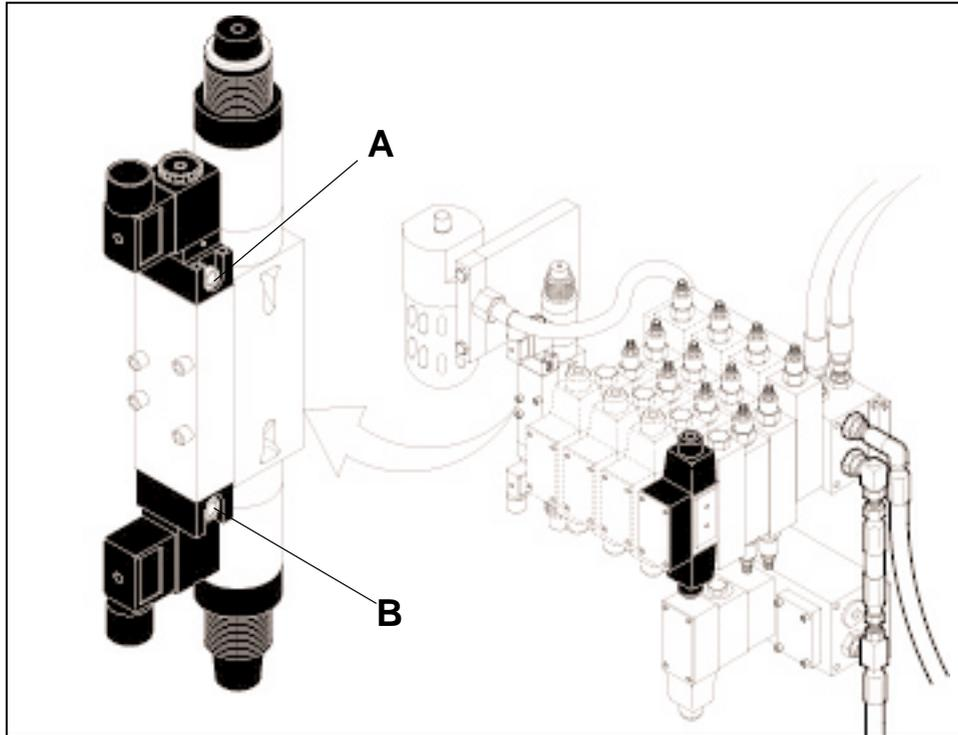
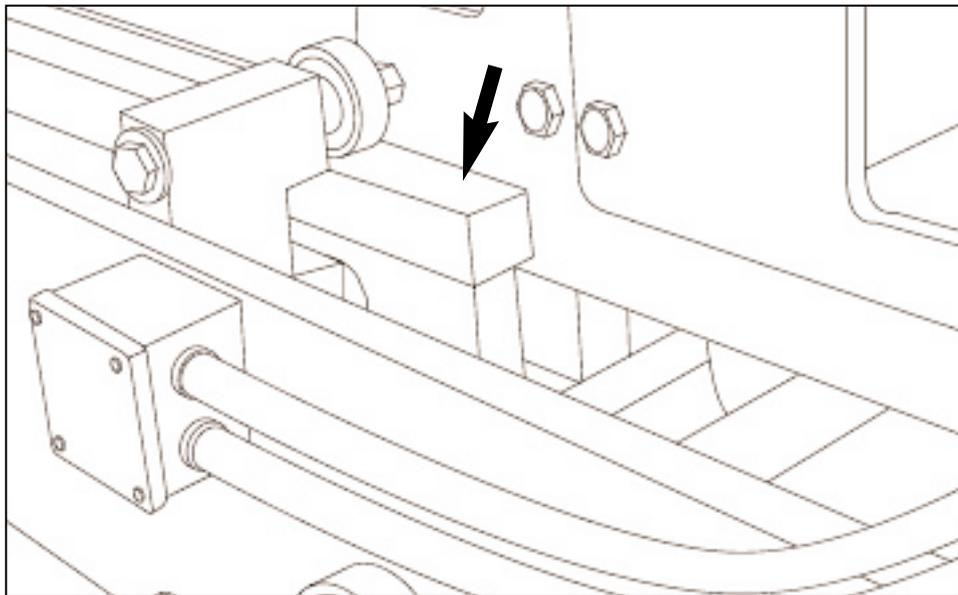
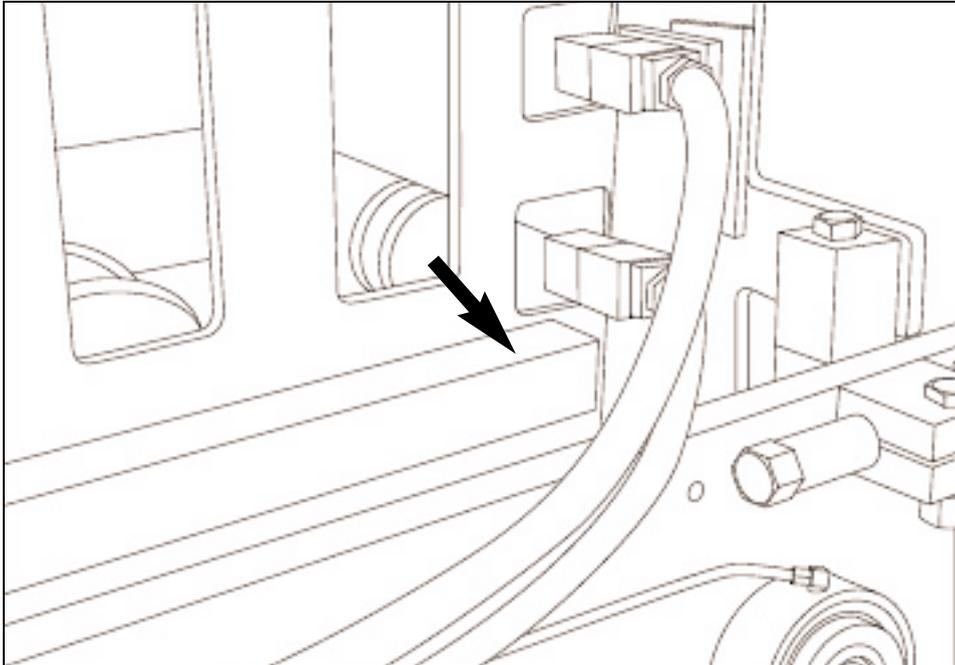
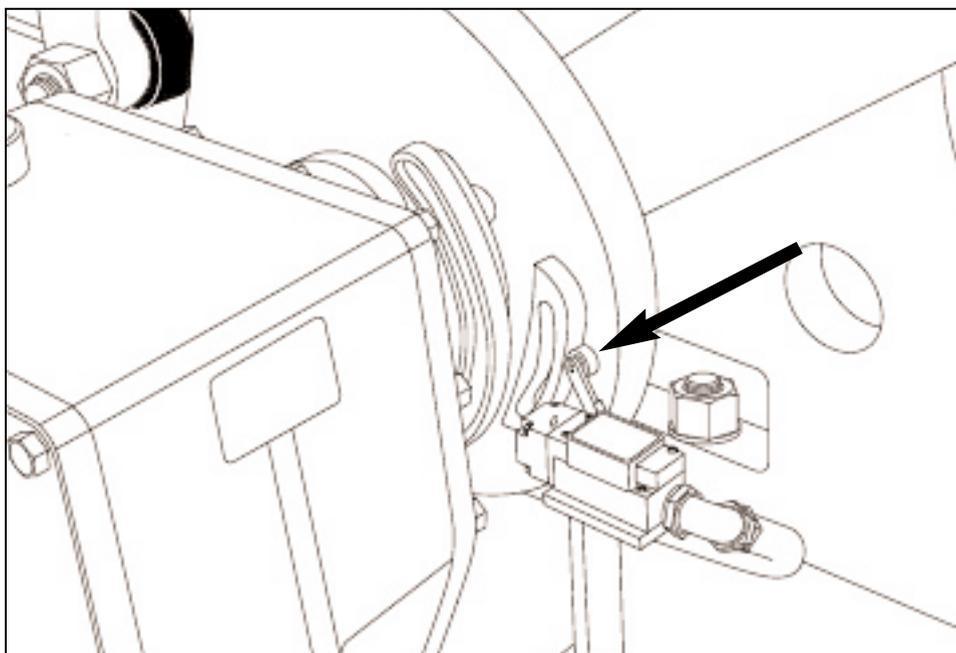

Figure 6.7 POSITIONING BLOCK MOVING BARS.
Figure 6.8 EXTREME FORWARD POSITION OF BLOCK MOVING BARS.
Figure 6.11 EXTREME BACK POSITION OF BLOCK MOVING BARS.
Figure 6.19 LIMIT SWITCH ACTUATOR.
6.2.2 Use the two push buttons on valve (figure 6.7) to jog block delivery bar motor until block delivery bars are full forward (see figure 6.8), both link pins and gear box shaft are in line. Top button(A) jogs bars forward and bottom button(B) will jog bars backward.
6.2.5 Use the two push buttons on valve (figure 6.7) to jog block delivery bar motor until arms are fully back (see figure 6.11). In this position, the pins in the link will be aligned with the gearbox shaft.
6.2.10 Adjust the actuator for LS-6 to trip the switch by 2" [51mm] (see figure 6.19).
6.2.15 Run machine and, at the moment where the pallet is beginning to be lifted off the chain, make sure the pallet is centered on the cradle. If pallet is not in center of cradle, adjust chains (refer to 6.2.8). When delivery arms come all the way back (see figure 6.11), drive link to cam must be in line with gear box shaft; if not, adjust actuator for LS-6 (see figure 6.19).